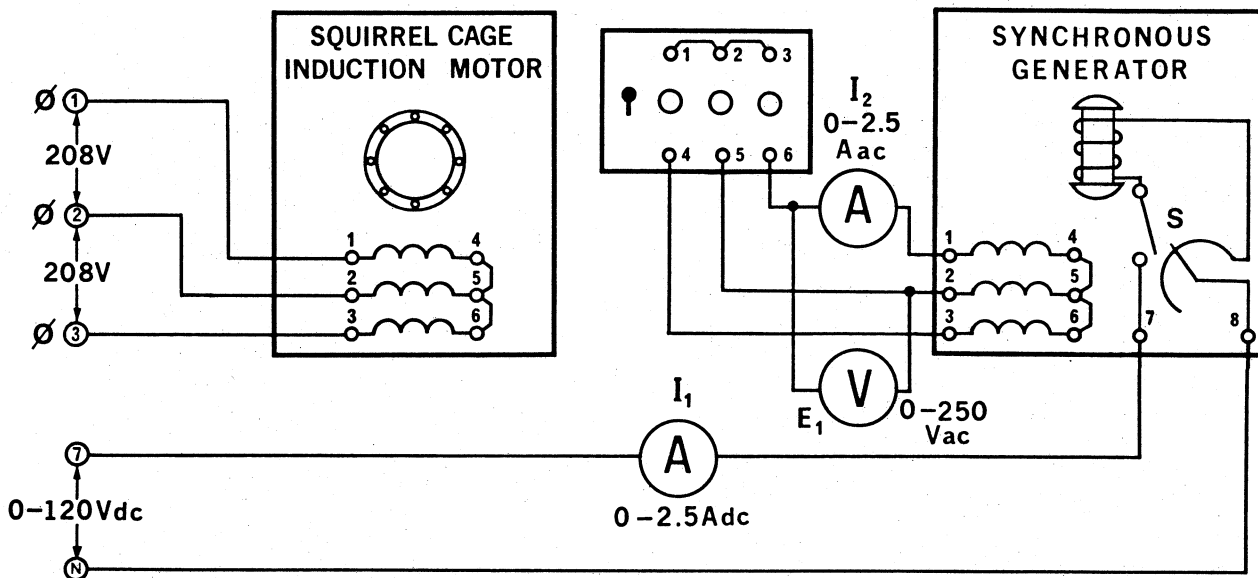

Figure 10-2.
7. Using your Synchronizing Module, connect the circuit shown in Figure 10-2. Note that the switch is wired to present a dead short across the alternator windings when it is closed.